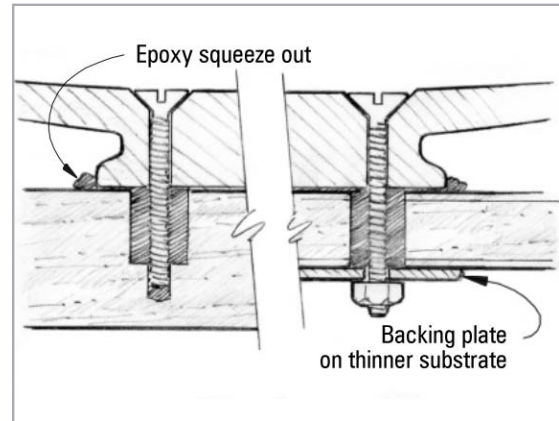

Figure 6-2 Tighten the fasteners until a small amount of epoxy squeezes from the joint.
7. Place the hardware in position. Insert and tighten fasteners until a small amount of the mixture squeezes out of the joint (Figure 6-2). Do not over tighten.